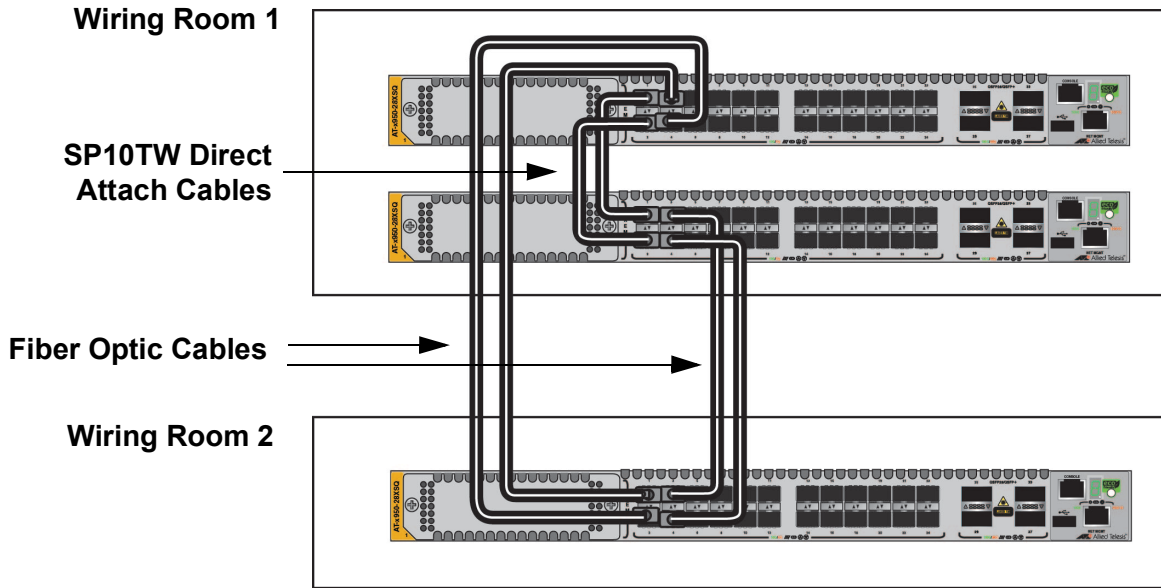

Figure 39. Unsupported Trunk with Mixed Cables
- ❑ The cables in a trunk must be all the same type: They can be all fiber optic cables, direct attach cables, or twisted pair cables. Trunks cannot contain different types of cables. The trunk in Figure 39 on page 88 is unsupported because it has both fiber optic and direct attach cables.